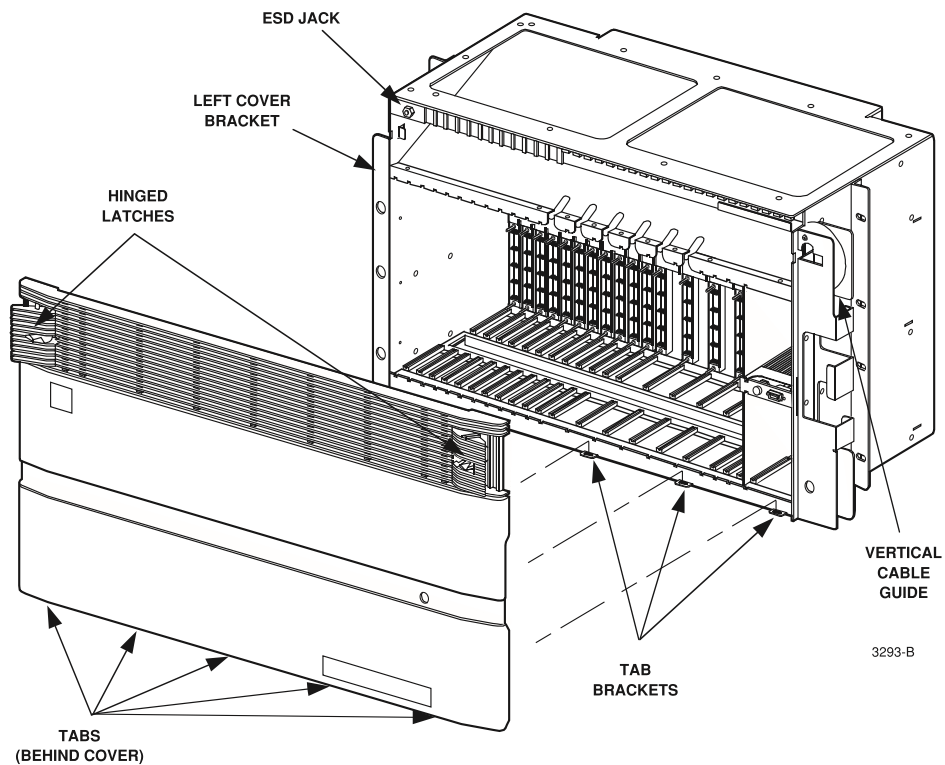

Figure 5-1. HDT Front Cover Removal
1. Release the latch on the **right** side of the HDT cover, shown in Figure 5-1, by pulling outward on the edge of the latch. The latch is hinged at the left and swings outward.